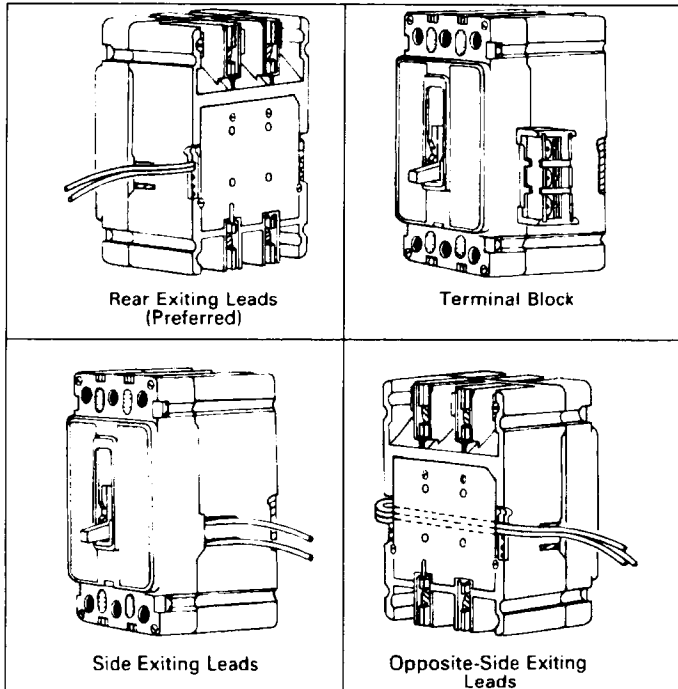

Fig. 2-2. Accessory Wiring Options
- 2-5. Route wiring to meet installation requirements. (See Fig. 2-2.)